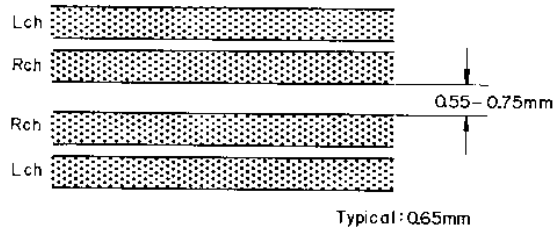

Fig. 4.20
- (j) Immerse the recorded tape in magnetized developing solution. In turn, check to insure that the recording head tracks across the center are separated with a distance of 0.55 to 0.75 mm (typically 0.65 mm) as illustrated in Fig. 4.20.